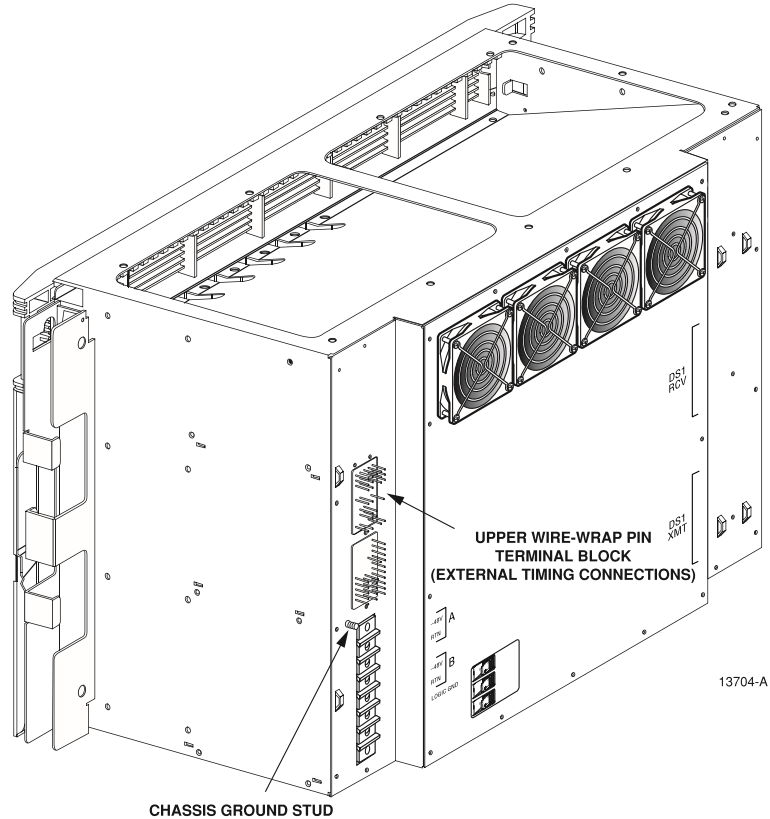

Figure 4-9. Upper Wire-Wrap Pin Block Location
2. Locate the upper wire-wrap pin block at the rear of the HDT chassis as shown in Figure 4-9.
4. Connect the cable shield drain wire to the chassis ground stud (see Figure 4-9) adjacent to the power terminal strip.